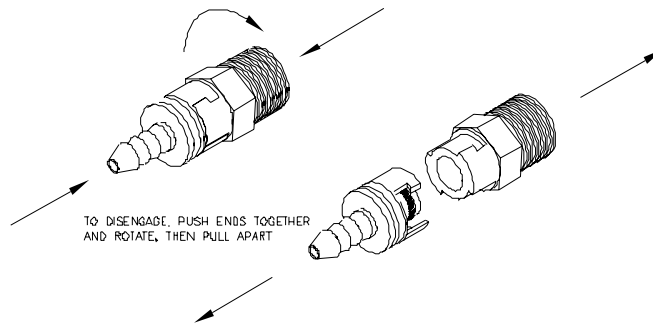

Figure 7: Quick Disconnect Fitting at Flowmeter
- 4) Pull the sensor assembly forward a few inches and disconnect the "quick-disconnect" fitting at the top of the flowmeter (for standard downstream sensor configuration) by pushing both halves of the fitting together and rotating one to the release position. See Figure 7.